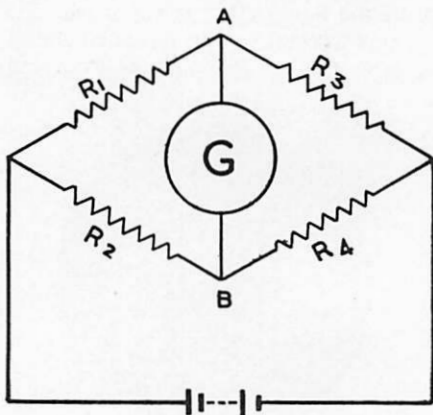

Fig. 3. Wheatstone Bridge Thermometer.
7. Wheatstone Bridge Type. The electrical circuit known as a Wheatstone Bridge is shown in Fig. 3, where $R_1, 2, 3,$ and 4 are resistances and G a galvanometer. If the resistances are all equal, or if R_1 equals R_2 , and R_3 equals R_4 , the bridge is balanced, for there is no voltage difference between points A and B , and therefore no current flows through the galvanometer. If, however, the bridge is unbalanced by a variation in value of one of the resistances, A and B are no longer at the same potential and the galvanometer needle will be deflected by the resulting out-of-balance current, the amount of deflection being proportional to the change in resistance. In the thermometer version of this circuit one of the